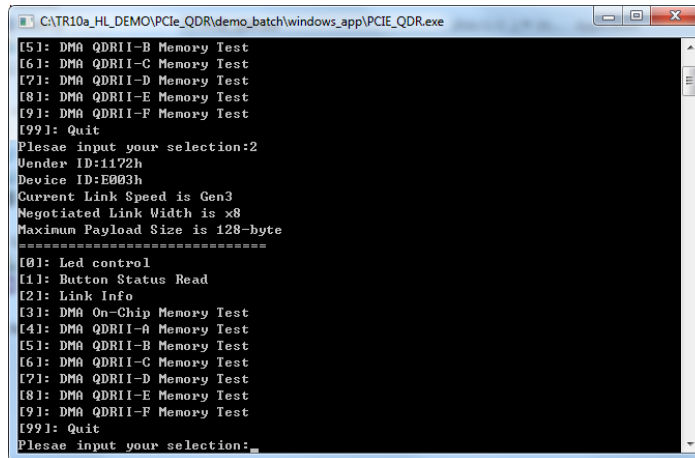

Figure 7-17 Screenshot of Link Info
7. Type 2 followed by a ENTERY key to select Link Info item. The PICE link information will be shown as in **Figure 7-17**. Gen3 link speed and x8 link width are expected.